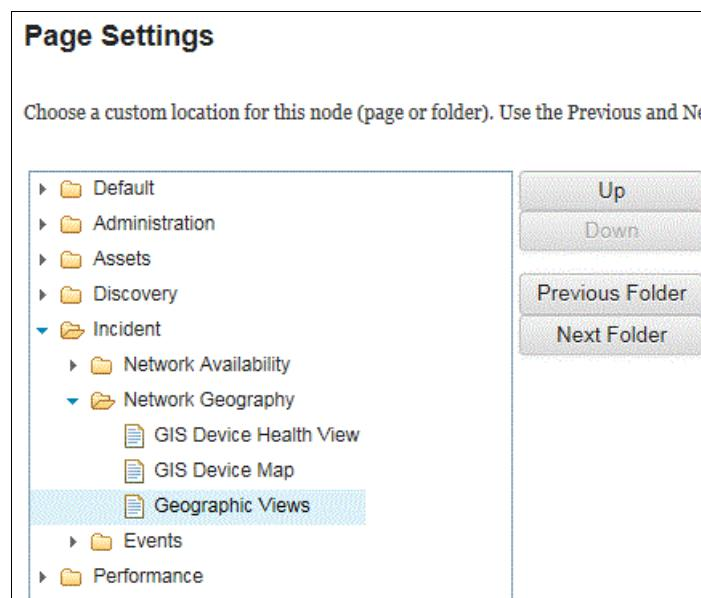

Figure 3-6 Menu location for the new Geographic Views
3. Click **Location** and drag the Geographic Views menu item that is in the console/Incident/Network Geography directory, as shown in Figure 3-6.